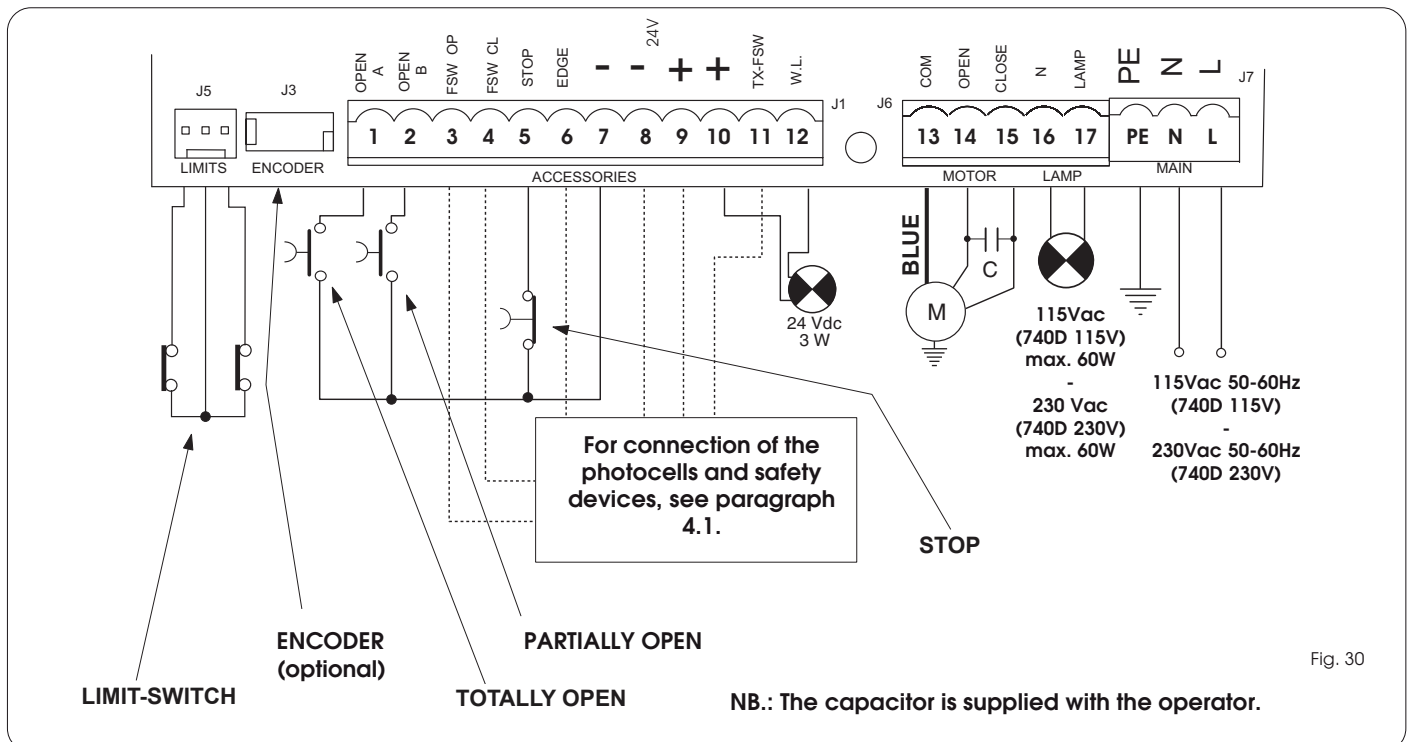

Fig. 30
- Connect the earth cable to the appropriate terminal on the J7 connector of the equipment (see fig. 30).
4.2. J7 Terminal board - Power supply (fig. 30)
4.3. J6 Terminal board - Motors and flashing lamp (fig. 30)
4.4. J1 Terminal board - Accessories (fig. 30)
4.6. Connector J6 - Limit-switches rapid connection (fig. 30)
This input is intended for rapid connection of the opening and closing limit-switches designed to stop the leaf, or for start of decelerations or for braking (see advanced programming in Par. 5.2.). In gearmotors with a built-in control unit, this connection is pre-wired as standard (fig. 30). For leaf opening direction, see advanced programming in Par 5.2.
4.7. Connector J3 - Encoder rapid connection (fig. 30)